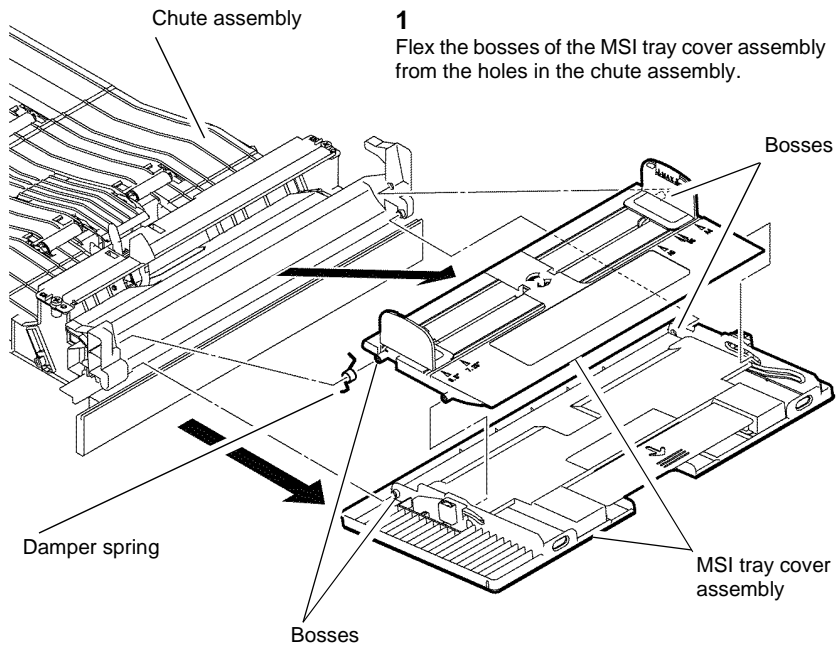

Figure 1 MSI tray cover assembly
3. Remove the MSI tray cover assembly, Figure 1.